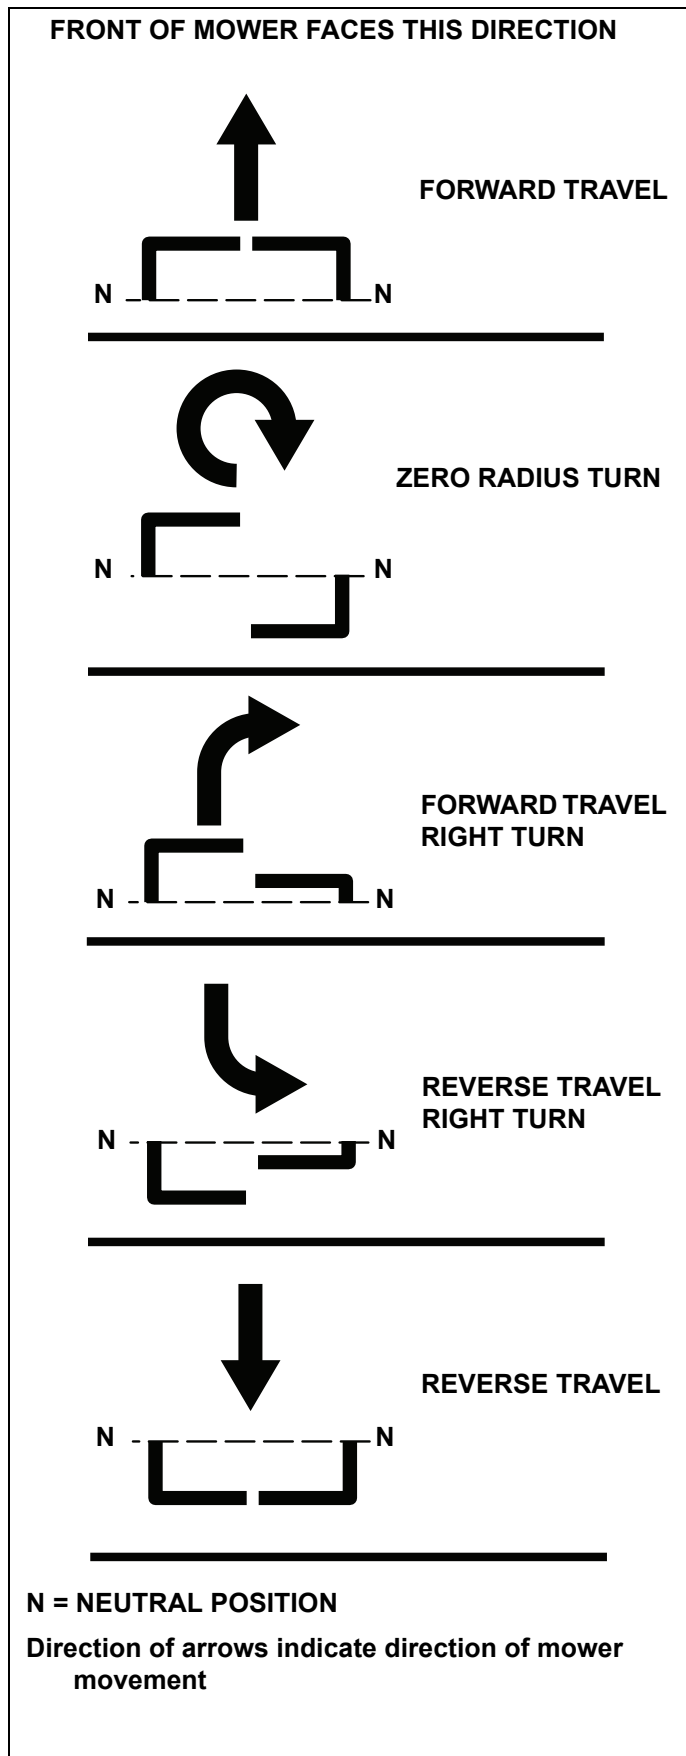

Figure 3-7
**To go forward,** push steering control levers forward an equal distance (Figure 3-7).
**To go in reverse,** pull steering control levers rearward an equal distance (Figure 3-7).
**To turn right,** move the left steering control lever farther forward from neutral than the right steering control lever. (Figure 3-7)
**Zero radius turn,** move one steering control lever forward and the other steering control lever back of neutral. This will allow the drive wheels to counter-rotate. (Figure 3-7)